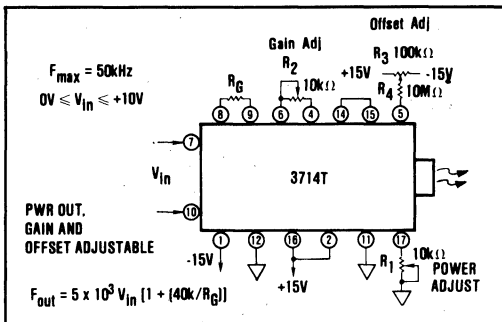

FIGURE 2. Typical Connections.
where R_1 is the external resistor shown in Figure 2.
The offset may be adjusted by injecting a small current into the Summing Junction (SJ) of the VFC. This can be accomplished by connecting a 10kΩ to 100kΩ potentiometer, R_3 , and 10MΩ resistor to pin 5 as shown in Figure 2. IA V_{ref} at pin 11 can also be used (see Bipolar Operation). Establish the offset by: (1) applying a DC input voltage at pins 7 and 10 to produce an output frequency of 0.001 x full scale and (2) adjusting R_3 for proper output frequency at pin 14.
for calibration of the basic circuit (Figure 2). This involves an iteration between VFC Offset adjustment and Gain adjustment.